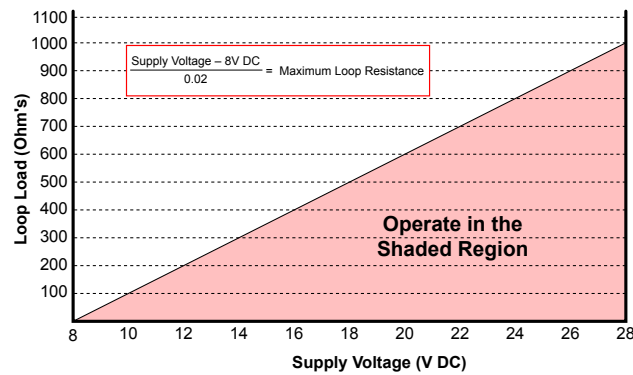

Figure 8: Supply voltage chart
The voltage provided by the receiver must be within the limits shown in *Figure 8*.
2. Find the total load (in ohms) on the left side of the chart in *Figure 8* and follow that value horizontally until it intersects with the shaded area.